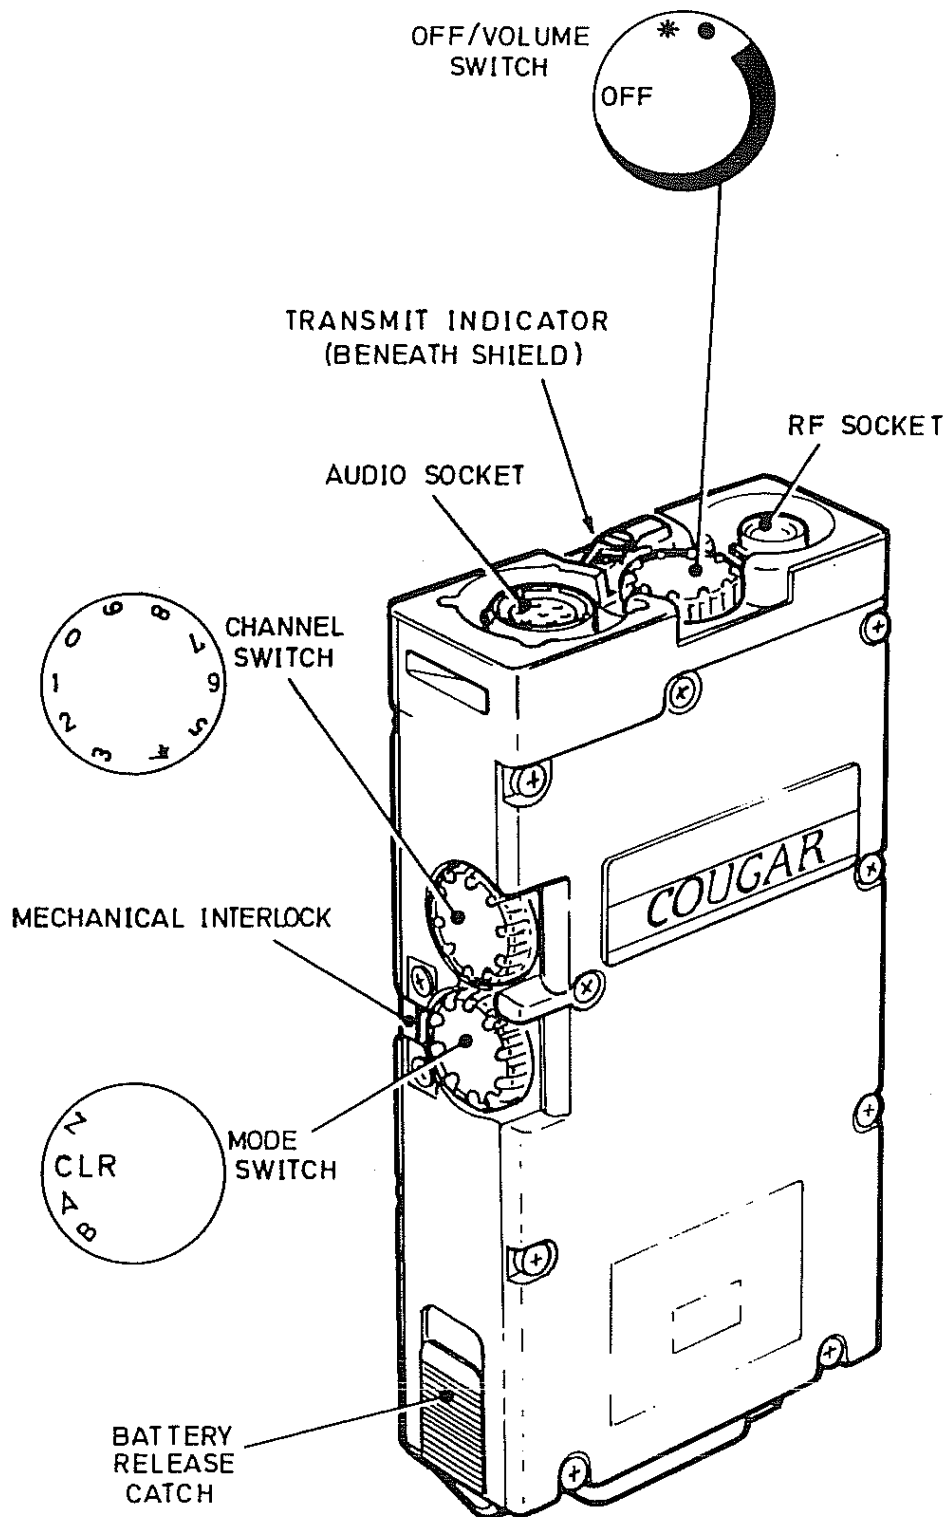

Fig 2.1 PRM4515U: Controls and Indicators
- 1 There are three switches, one mechanical interlock and one indicator on the PRM4515U, shown in Fig. 2.1.